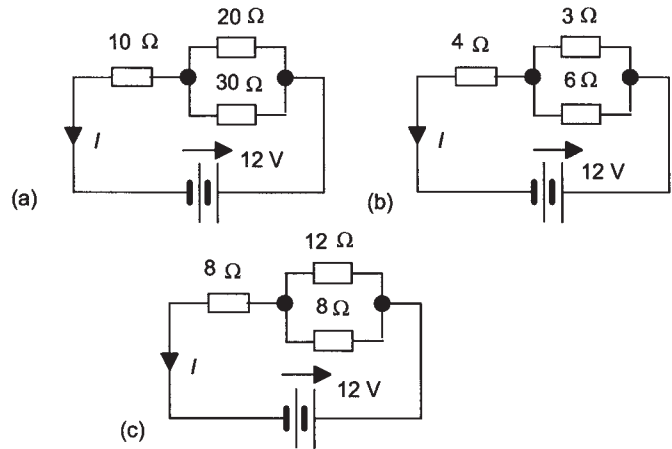

Figure 9.24 Problem 21
- 21 Determine the total resistances of the circuits shown in Figure 9.24 and the circuit currents I .